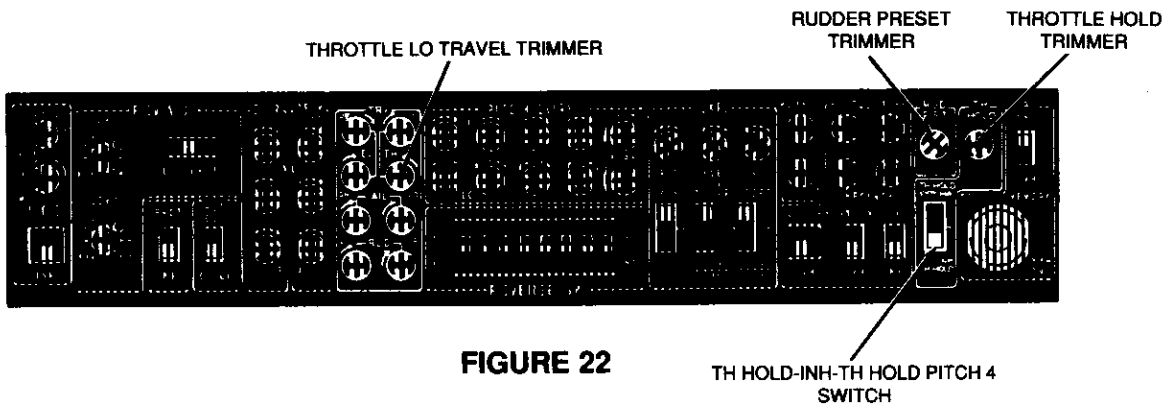

FIGURE 22
On Mode II transmitter, the left stick controls both the throttle and collective functions. However, when the Throttle Hold function is activated you can adjust the engine to a reliable idle when practicing autorotations by adjusting the "TH HOLD" trimmer to position the throttle servo to the desired point and then the throttle stick will only control the collective pitch. Throttle Hold is activated by placing the throttle hold "TH HOLD-INH-TH Hold Pitch 4" switch on the trimmer panel, Figure 22, in the "TH HOLD" position and the Throttle Hold switch (18) on the top left of the transmitter, Figure 23, to "ON". The "TH HOLD" L.E.D. will then blink rapidly. The throttle "LO" TRV trimmer should be adjusted to approximately midrange so that the "TH HOLD" trimmer, Figure 22, is effective. The engine speed when in the Throttle Hold mode of operation is controlled by the "TH HOLD" trimmer. The Throttle Hold feature allows you to hold the engine at a specific throttle setting and still maintain full command of collective pitch with the throttle stick. It is recommended that when ever the Throttle Hold feature is not desired, the Throttle Hold "TH HOLD-INH-TH HOLD Pitch 4" switch be maintained in the "INH" position to prevent accidental operation.
When the "TH HOLD-INH-TH HOLD PITCH 4" switch on the trimmer panel, Figure 22, is placed in the "TH HOLD Pitch 4" position, the "Pitch Curve Trimmers #4", both Lo and Hi, will adjust pitch when the "TH HOLD" switch (18) is on. Use of the "TH HOLD PITCH 4" switch in this manner overrides the use of the Pitch Curve Select switch, and Pitch Curve #4 is automatically selected when the Throttle Hold switch (18) is moved to the "Hold" position. This allows auto rotations to be performed using Pitch Curve #4 by only activating the Throttle Hold switch which under most circumstances is the desired mode of operation. By placing the TH "HOLD-INH-TH HOLD Pitch 4" switch to the Inhibit (INH) position on the front panel the Pitch Curve Select Switch (21) continues to operate independently of the Throttle Hold function to allow you to select the pitch curve desired throughout all phases of flight, Figure 24.
The Rudder Preset trim feature is activated when the "TH HOLD-INH-TH HOLD PITCH 4" switch on the trimmer panel (Figure 22) is in the "TH-HOLD" or "TH HOLD Pitch 4" position.